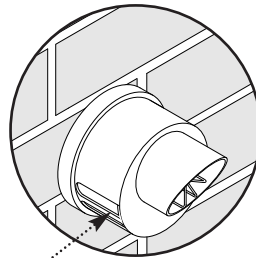

Fig. 43
10. Ensure that the terminal is positioned with the slots to the bottom (Fig. 43).